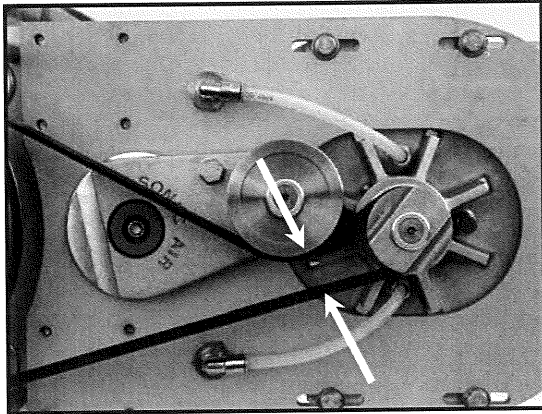

Figure 30 – Verify Belt Gap
8. Verify that the belt gap is approximately ¾ inch ±1/16 inch (Factory Set). (See Figure 30)